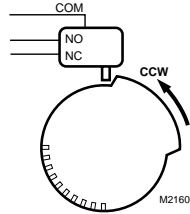

Fig. 2. Switching configuration for counterclockwise rotation (top view).
1. Determine desired switching action (if switch is to energize during clockwise or counterclockwise rotation). With switch cam as shown in Fig. 2, the normally closed contact opens during counterclockwise rotation and the normally open switch closes.
5. With a screwdriver, move cam inside switch assembly to the appropriate position. Remember, the direction of travel of the cam for switching purposes (see Fig. 2 and 3). Monitor the switch closure with an ohmmeter for a continuity check. See Table 1.